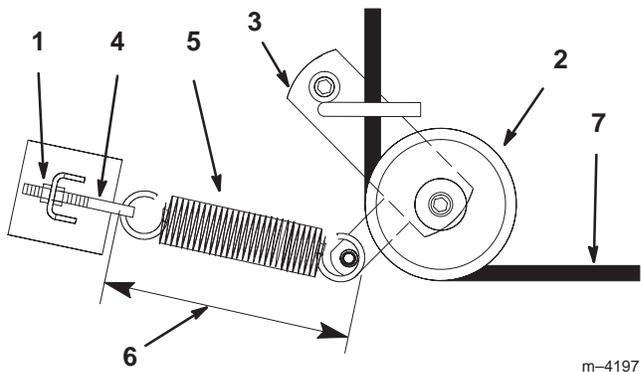
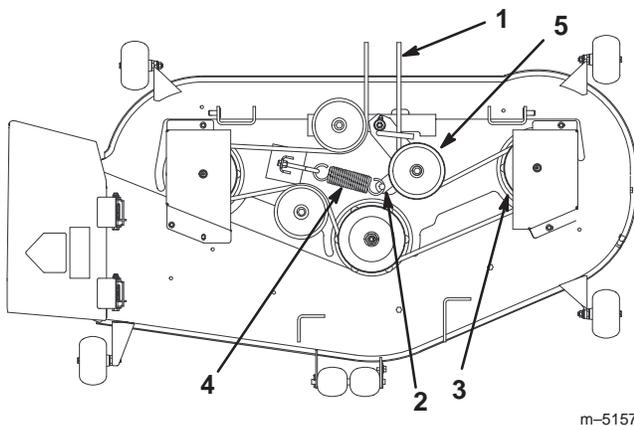

Figure 43
Figure 44
4. Loosen the outer nut on the spring eye bolt (Fig. 43) enough to allow removal of the belt.
5. Remove the belt. Start at the outside pulley and rotate the belt off (Fig. 44).
- Route the new belt through the idler arm (Fig. 43) and onto the other pulleys (Fig. 44).
- Tighten the outer nut on the spring eye bolt (Fig. 43).
Note: Check the spring length. The spring should measure 9-3/8 in. \pm 1/8 in. (238 mm \pm 3 mm) when installed with the height-of-cut set at 1-1/2 in. (38 mm). Adjust it if it does not (Fig. 43).